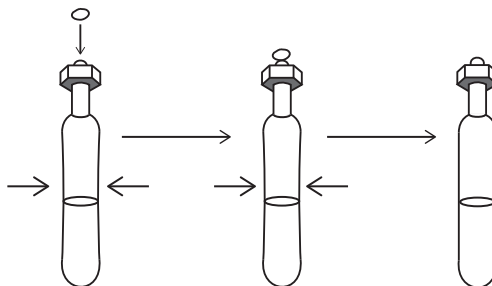

Figure 3.
3. Holding the bulb with the stem end upward, squeeze the bulb very slightly to expel a very small amount of air. Hold the squeeze while carefully placing a drop of hot, melted glue in the stem opening of the diver and then relax the squeeze. The drop of hot glue will be pulled into the stem (see Figure 3).